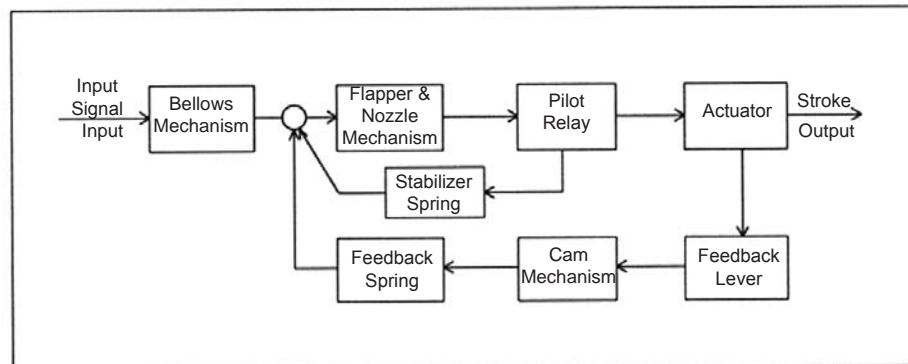

Figure 1
Bellows (1) push flapper (2) if input pressure increases. Then the gap between nozzle (3) and flapper (2) increases, which results pressure in upper spool (5) exhaustion. This would cause spool (5) to rise upward. As the spool (5) rises, it pushes format (8) and the air pressure will be supplied to the actuator (10). As the actuator's inner pressure increases, the actuator stem (12) will move. For graphical diagram, please refer to Figure 1.
(1) Proper bracket must be made in order to attach positioner on the actuator yoke. Please consider the following when making a bracket:
- ① Feedback lever should be leveled at 50% of valve stroke. (Refer to step 7)
- ② Feedback lever connection bar of actuator clamp should be installed at the position that the valve stroke and numbers which indicated on the feedback lever must be fitted (Refer to Step 8)
(2) Attach Series 58 to the bracket, which was produced in an earlier step, by using bolts. <Figure 1> Please refer to backside of the product for size of bolts. The standard size of bolt is M8 x 1.25SP, and other bolt sizes are available. Please contact J Flow Controls, LLC.